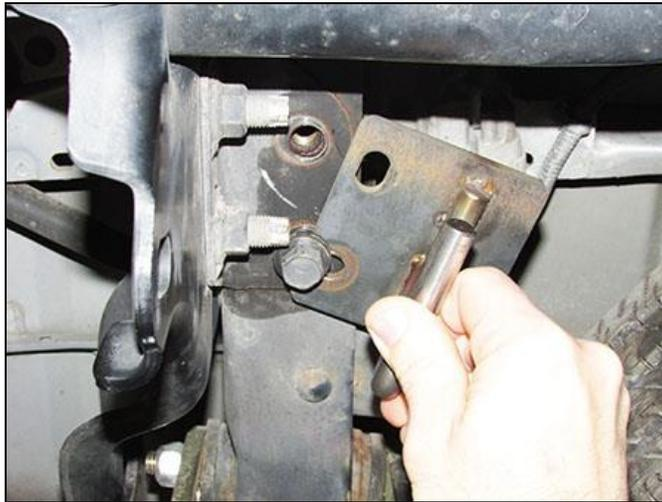

Figure 1
11. Unbolt the rearmost 17mm head bolt securing the OE hitch to the frame and then loosen the front 17mm head bolt until the bolt head has approximately ¼" gap from the hitch bracket. Now, install the supplied BlackHeart Hanger Bracket using the original hardware by sliding the notched section between the hitch bracket and the front bolt (**Figure 1**). Secure the rear bolt and tighten.